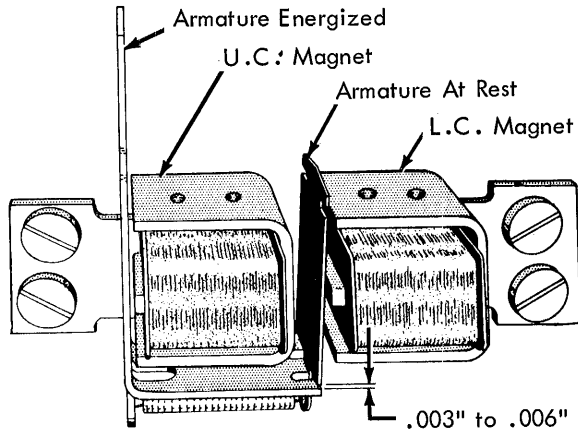

FIGURE 78. LC Magnet Assembly (Up or Down)
- b. Up or Down - UC armature (energized) clears the LC armature (at rest) by .003" to .006" (Fig. 78).